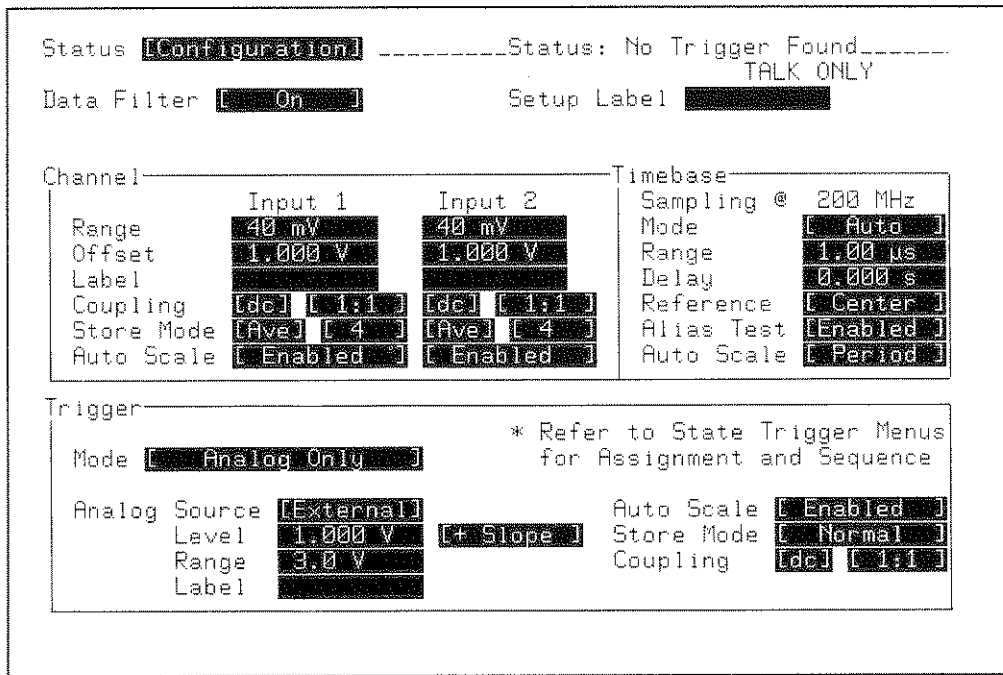

Figure 9-1. STATUS Configuration Menu
2. Configure STATUS Configuration menu as shown in figure 9-1.